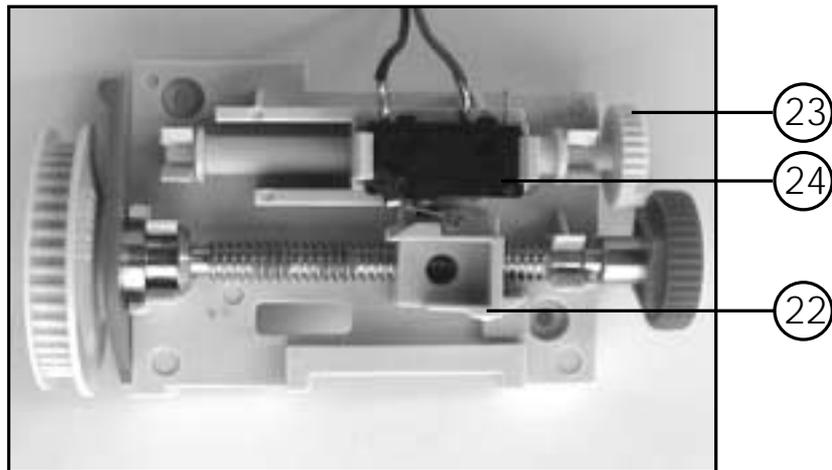

Fig. 11: Setting the reference point (door is opened)
- Now turn with the small knurled wheel (23) the adjusting spindle, until the reference point switch (24) is actuated by the carriage (22) (see fig. 11).
- Then turn the small knurled wheel (23) 1 – 2 rounds counterclockwise.